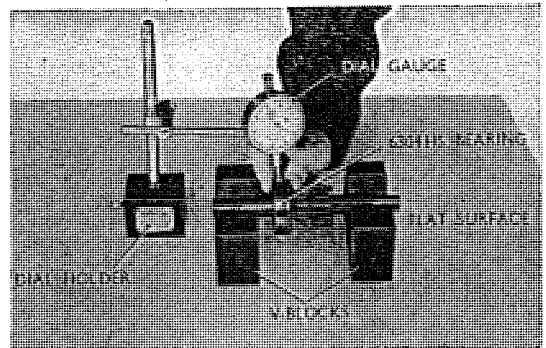

Fig. 3.119 Measuring clearance of the transmission unit bearing
- Measurement of clearance in the axial and radial directions for the transmission main shaft and countershaft bearing. (Refer to Fig. 3.119)